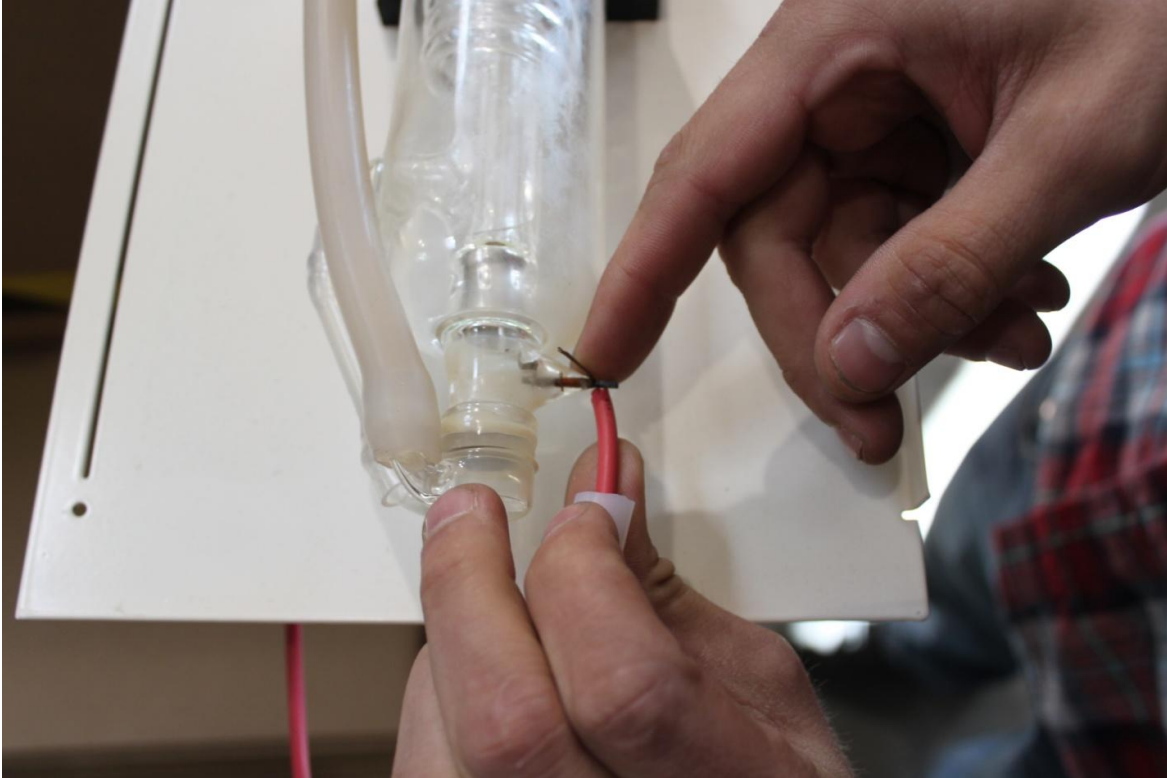

Figure 58
3. Wrap the exposed portion of the red lead **tightly** and **securely** around the positive electrode—reflector end, opposite the aperture (Figure 58 and Figure 59).